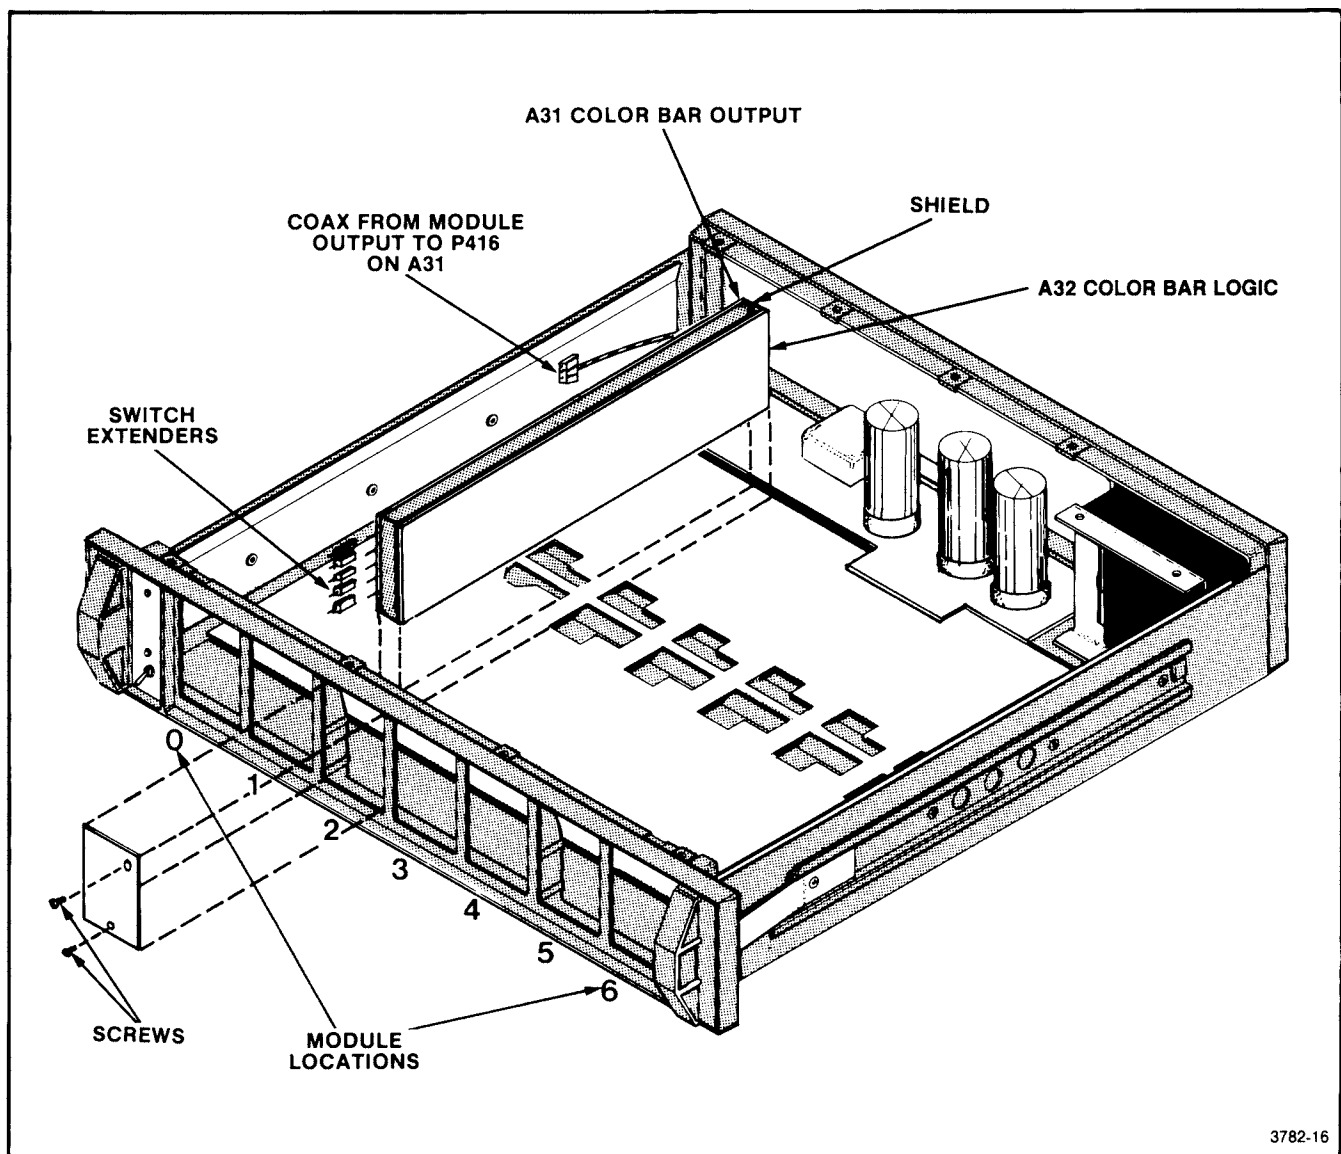

Fig. 3-3. Installing the module circuit boards in the 1410 mainframe.
- b. Select a module location for the TSG7. The recommended location for placement of the TSG7 is location 2. See Table 3-1 and Fig. 3-3 for the recommended placement of all the TSG modules when operating with the TSG7.
- h. Connect the coaxial cable from the 1410 Module Output connector selected (P58, pins 1 & 2 for location 2) to the output pins (P416, pins 3 & 4) of the A31 Color Bars Output board. Cables are color coded to match location designations shown in Fig. 3-3.